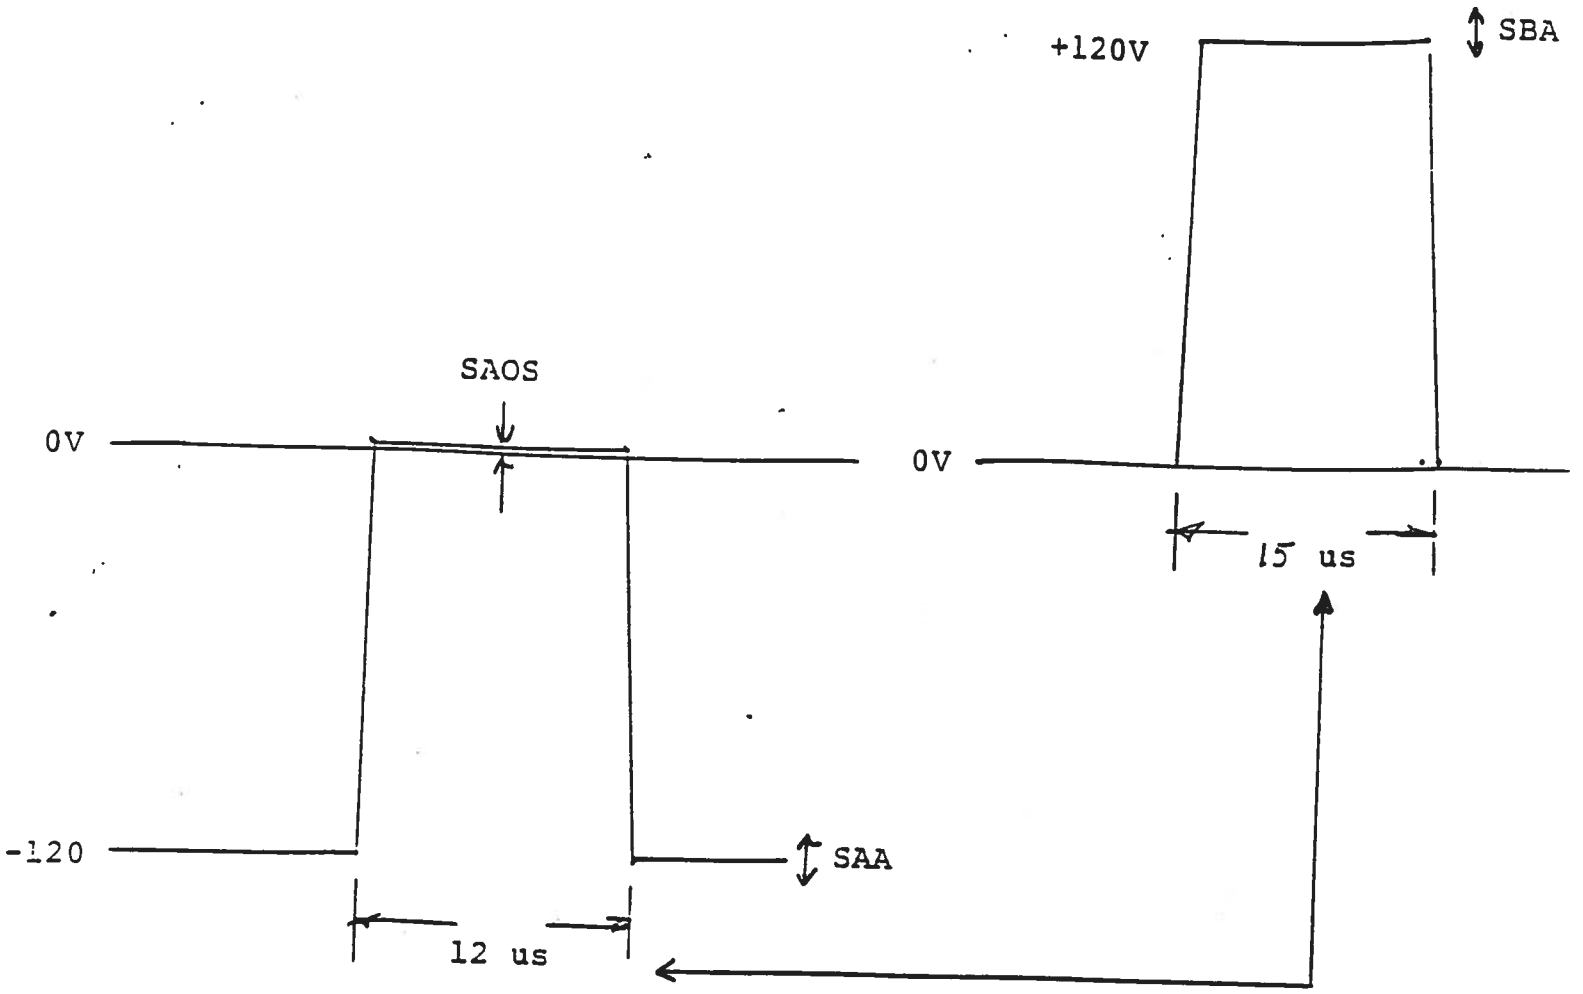

Fig. 5
- 5) With PIN A "LOW" and PIN C "HIGH", the OUT SMA connectors provide the waveforms shown in Fig. 5.
As with the TOF mode, the one turn SAA, SAOS or SBA locking pots (see Fig. 4) are provided in the interior of the instrument to achieve the amplitude adjustments shown in Fig. 5.
- 1) The OPERATE-SET-UP switch should be in the SET-UP position. With PIN A "LOW" and PIN C "LOW" the A OUT oscillates from the SAOS level (see Fig. 5) to a level which is variable from 0 to -15 using the AMP control. The oscillation rate is fixed at 1Hz. This function is controlled by an astable driver relay (which "clicks" at the 1 Hz rate). The unit will not enter the set-up mode unless both A and C are in the "LOW" level.
- (3) OPERATE-SET-UP Switch and POT control. To obtain the TOF, SALI, or DC outputs, the switch 3 may be in either position
- (4) For the SET-UP mode, the switch must be in the SET-UP position and PIN A "LOW" and PIN C "LOW". In this mode the A OUT oscillates from the SAOS level (see Fig. 5) to a level between 0 and -15 Volts at a 1 Hz rate. This function is controlled by an astable driver relay (which "clicks" at the 1 Hz rate). The amplitude is controlled by the AMP control 4.